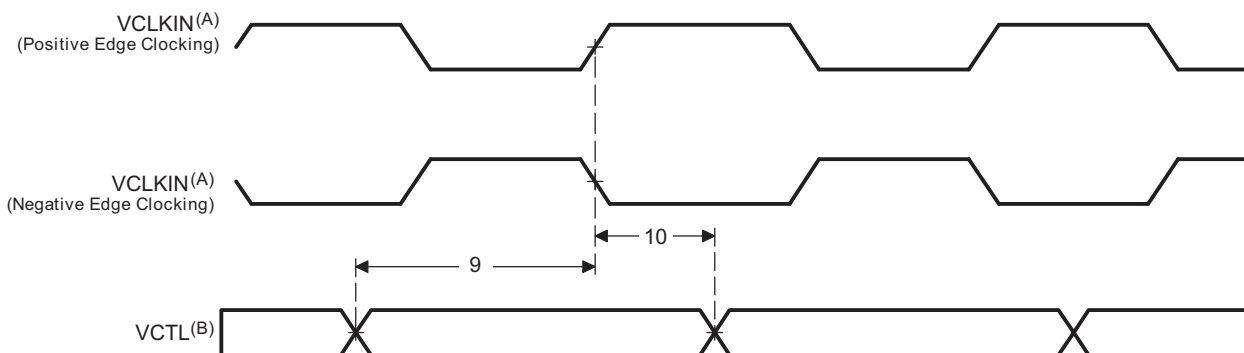

**Figure 7-35. VPBE PCLK and EXTCLK Timing**
**7.12.2.3 VPBE Electrical Data/Timing****Table 7-52. Timing Requirements for VPBE CLK Inputs (see Figure 7-35)**
(1) For timing specifications relating to PCLK see Table 7-45, Timing Requirements for VPFE PCLK Master/Slave Mode.
**Table 7-52. Timing Requirements for VPBE CLK Inputs (see Figure 7-35) (continued)**